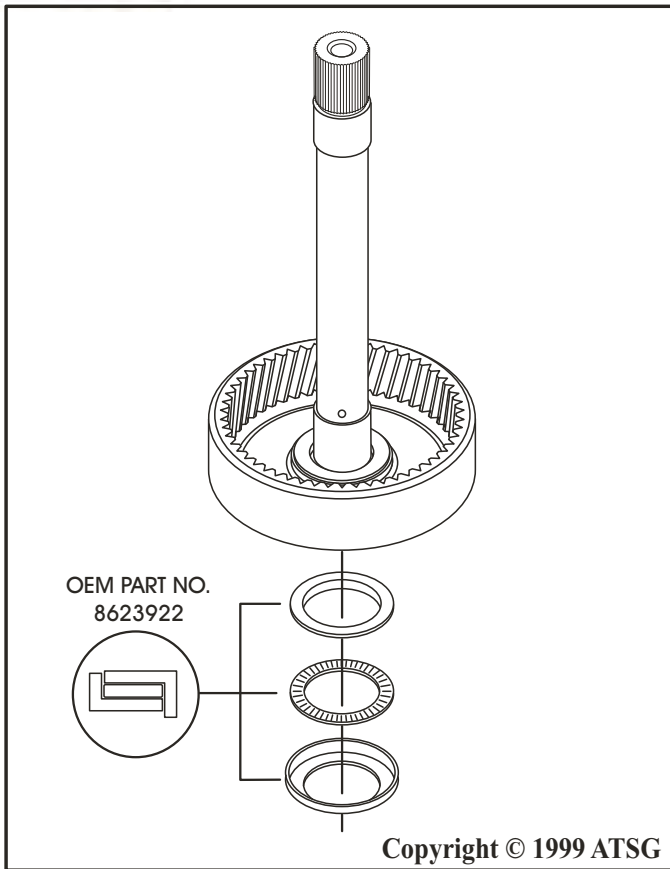

Figure 60
13. Install the upper needle bearing race from the 8623922 package over the ring gear snout with the inside lip facing away from the ring gear as shown in Figure 60, and retain with a small amount of TransJelÖ.
14. Install the needle bearing assembly onto the upper race and retain with a small amount of TransJelÖ, as shown in Figure 60.
15. Install the lower needle bearing race on top of the needle bearing with the inside lip facing up, as shown in Figure 60, and retain with a small amount of TransJelÖ.